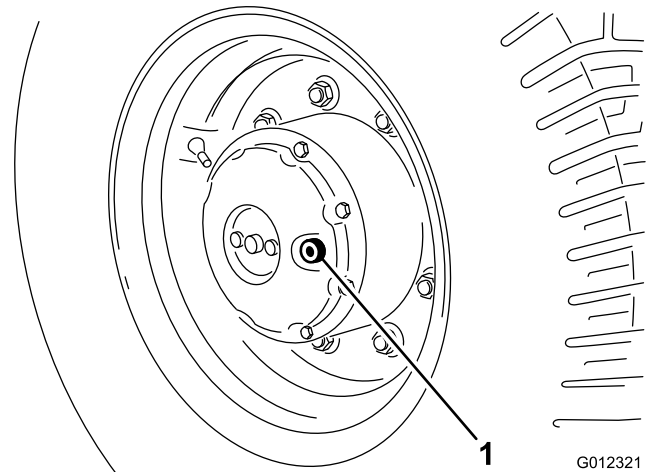

Figure 37
1. Park the machine on a level surface with the check/drain plug hole (Figure 37) at the 3 o'clock or 9 o'clock position.